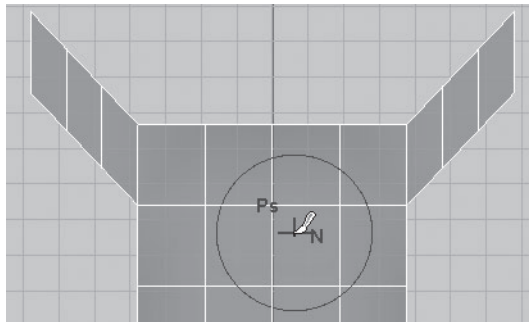

FIGURE 3.72 Sculpt Polygon brush.
3. Position the mouse cursor on the sack. Notice that the cursor has a circle on it. This circle is the size of your brush, as shown in Figure 3.72.